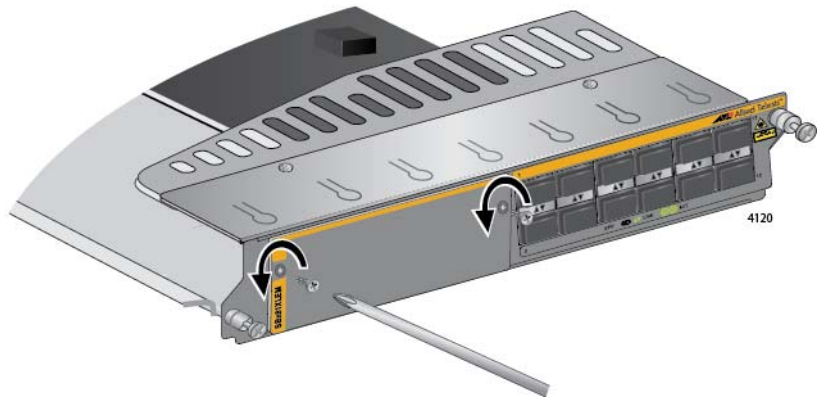

Figure 78. Removing the Screws on the Blank Slot Cover on the AT-SBx81XLEM Line Card
4. With a #2 Phillips-head screwdriver, remove the two screws that secure the blank slot cover to the card. Refer to Figure 78.